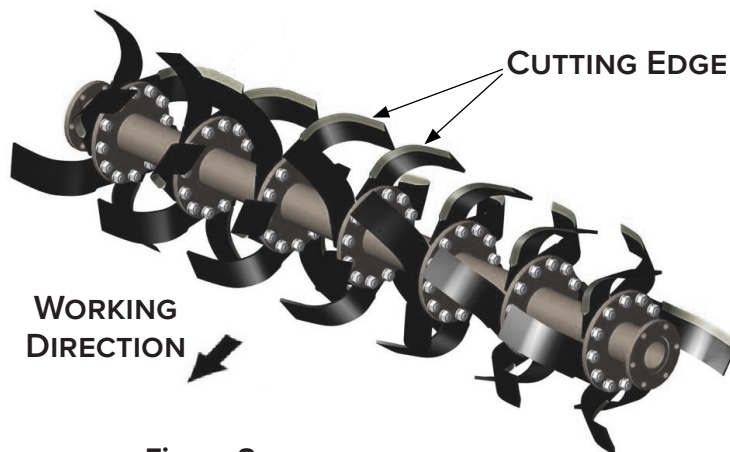

Figure 8
1. Remove the two (2) bolts and washers clamping the tines onto the rotor flange.
3. Position the new tine in the same position as worn tine was in. Be sure to install the tine with the cutting edge in front of the direction of rotation. See Figure 8.
6. After replacing all tines, make sure the tines have the right helical arrangement as shown in Figure 8.